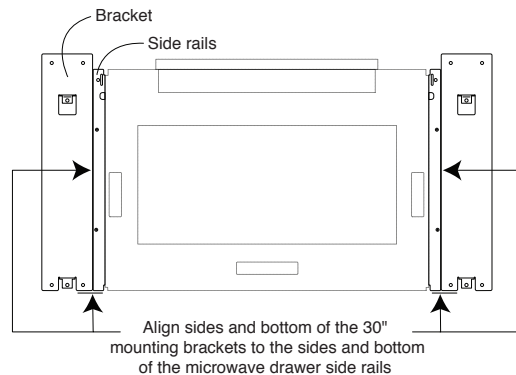

**Figure 6**
6. Close drawer to complete oven installation. See Figure 6.